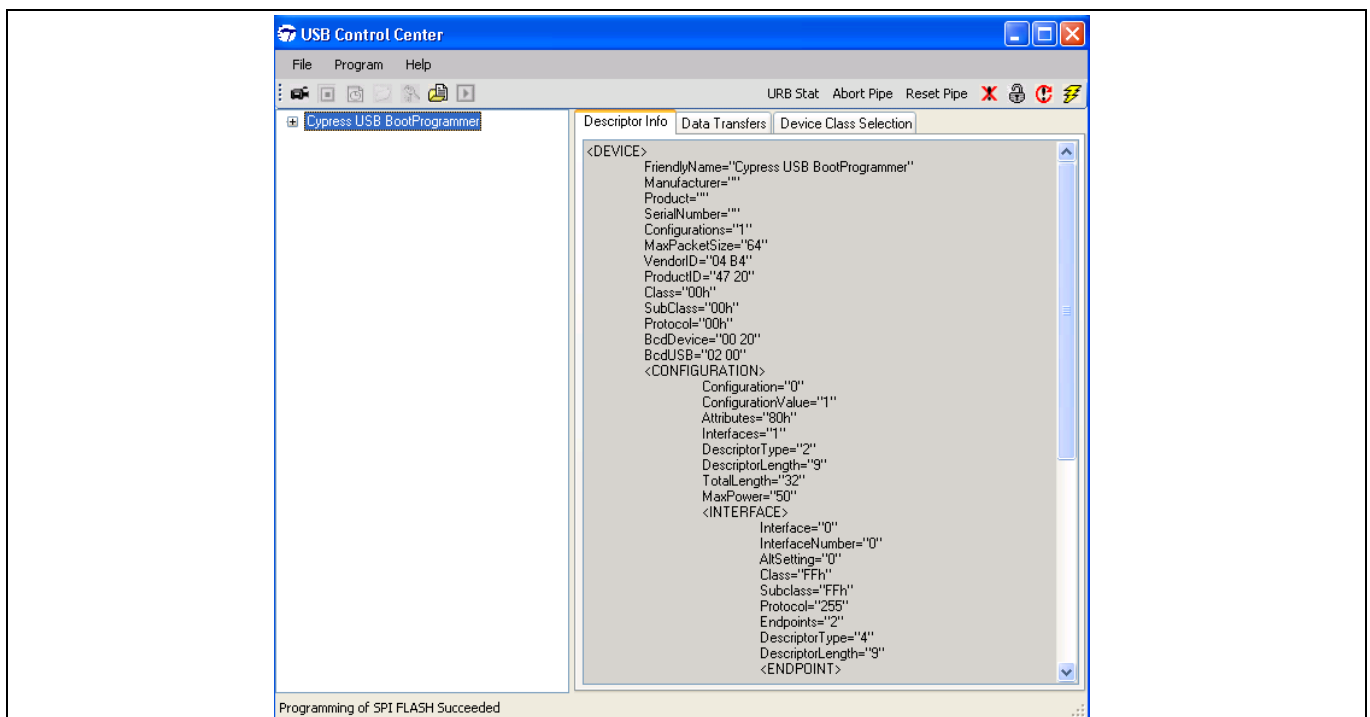

Figure 33 Successful programming of SPI flash indicated at bottom left of Control Center
- After programming is complete, the bottom left corner of the window displays “Programming of SPI FLASH Succeeded,” as shown in **Figure 33**.